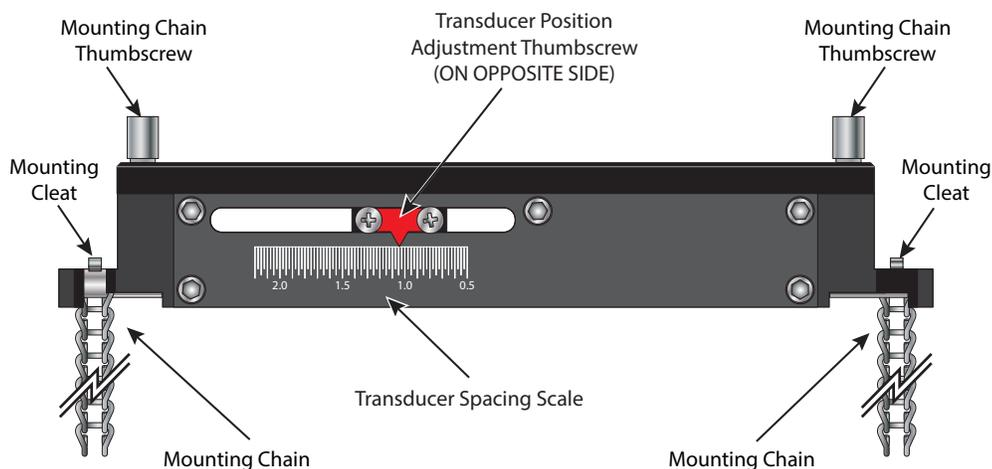

Figure 5: Transducer top view
2. Loosen the position adjustment thumbscrew and slide the transducer along the scale to set the distance between the them. The scale shows the distance in inches. See Figure 5.